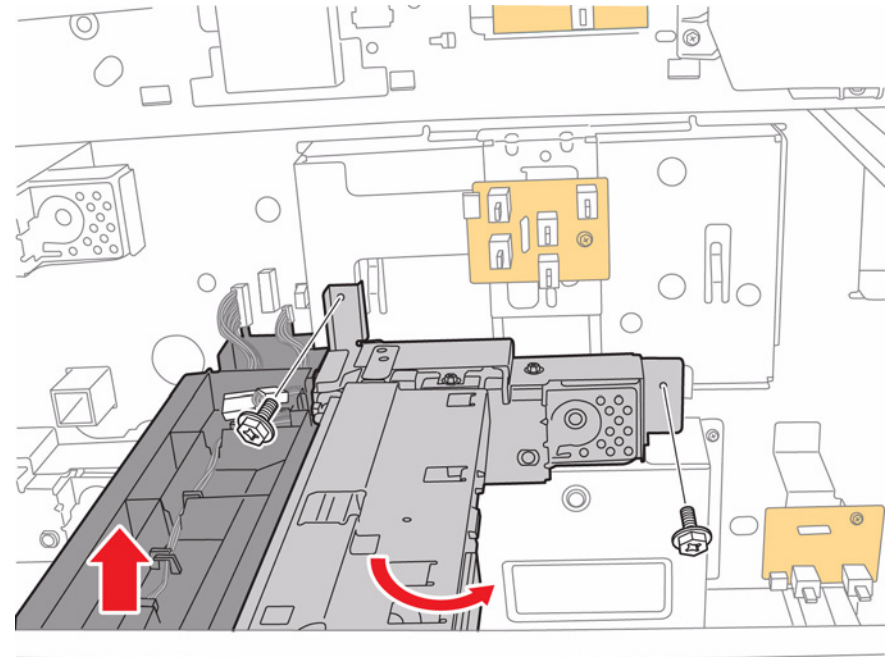

Figure 3 Removing screws
7. Lift the Lower Chute in the direction of the arrow as shown in Figure 3.
8. Move the Tray 5 Feeder Assembly in the direction of the arrow as shown in Figure 3 to remove.